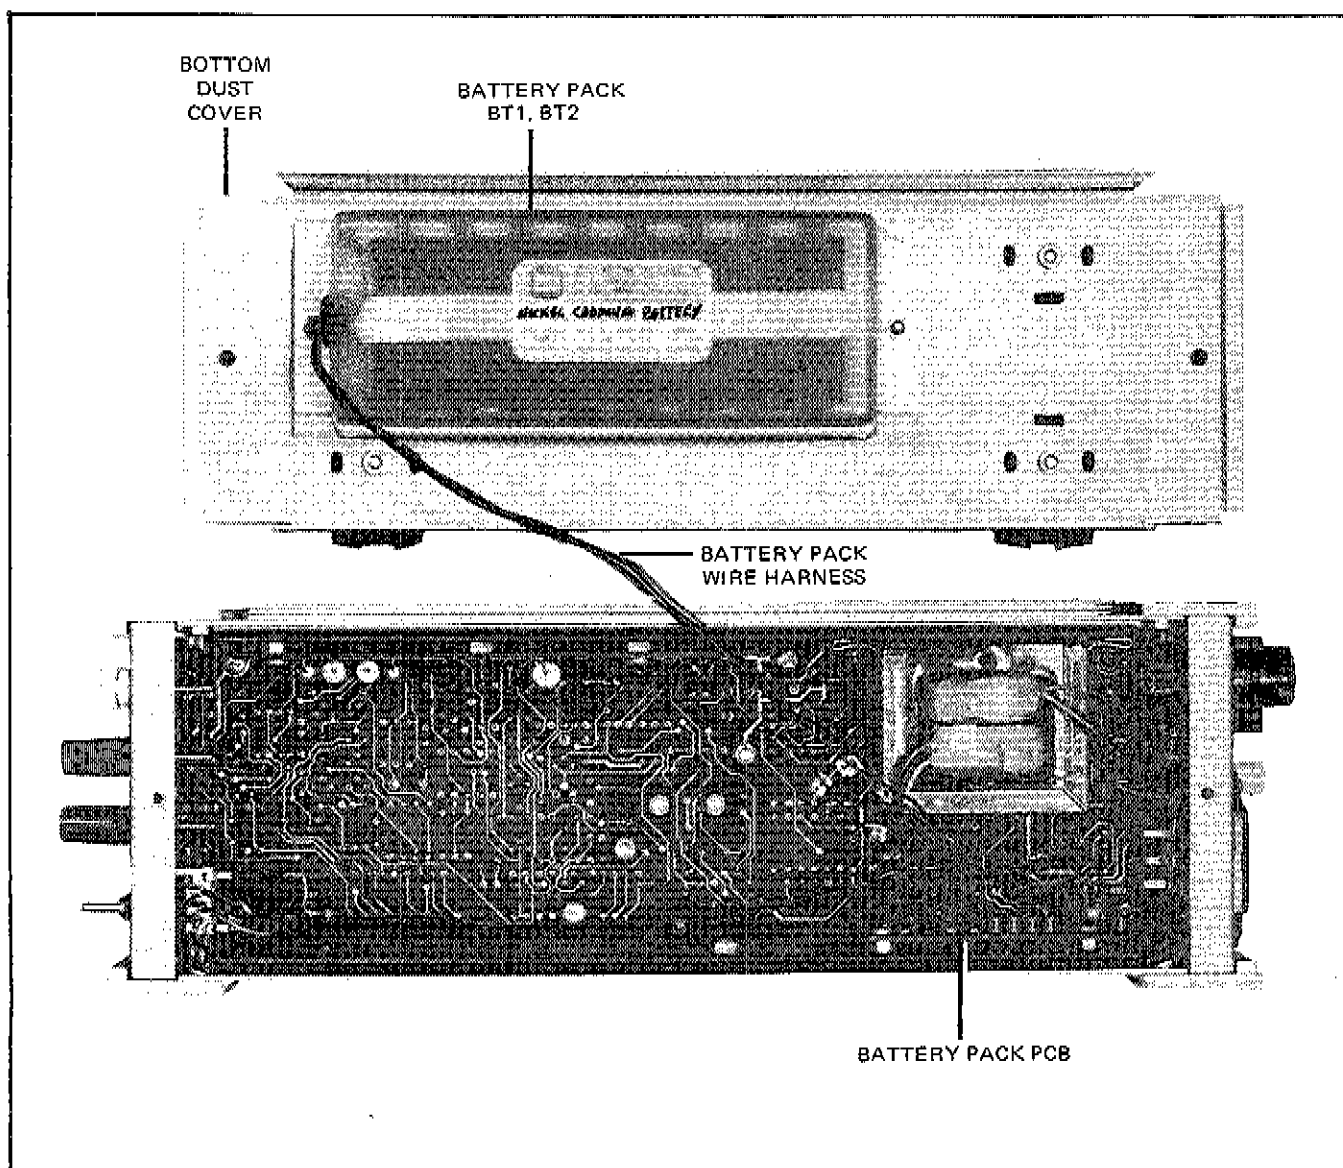

Figure 6-2. BATTERY PACK KIT LOCATIONS
- c. Install the Battery Pack (BT1, BT2) on the bottom dust cover as shown in Figure 6-2.
- d. Install the Battery Pack PCB in the position shown in Figure 6-2. Ensure that the mating connectors are correctly aligned during installation.
- e. Connect the four (4) Battery Pack wires to the Battery Pack PCB. Each wire is labeled with a number which corresponds to a connector on the PCB.